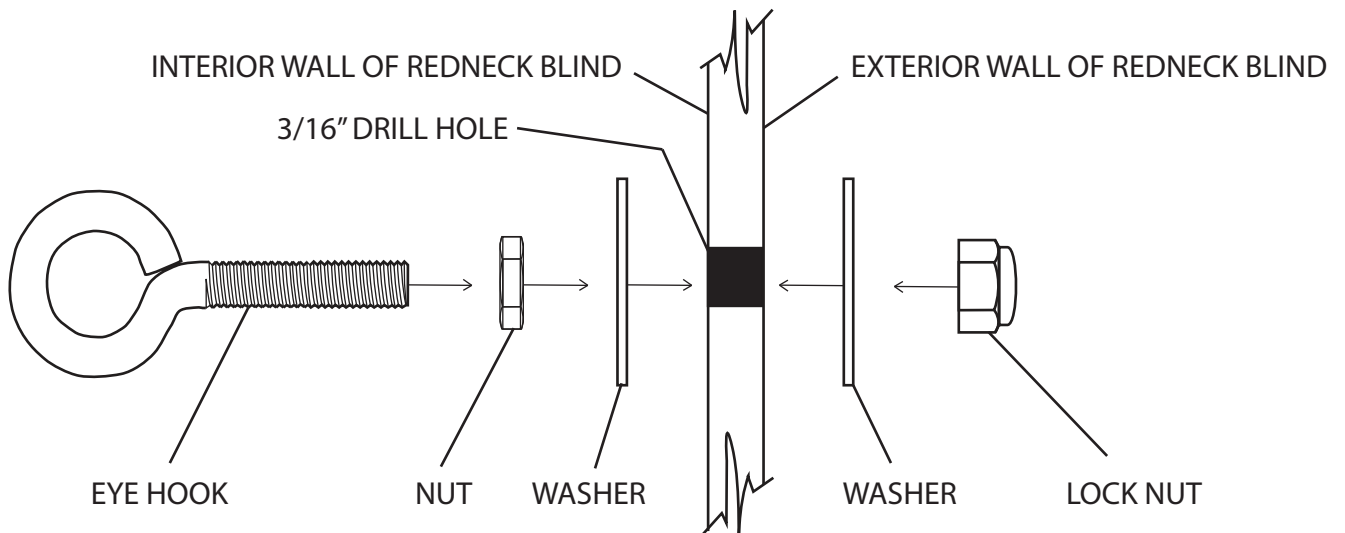

Figure 11.1
STEP 2: Drill a 3/16" hole through the wall of your Redneck Blind in the predetermined location of your choice. Make sure the location of your hole is high enough on the wall of the blind to allow for clearance of the window when it is open. Next install the EYE HOOK, NUT, (2) WASHERS and LOCK NUT, making sure to use the hardware configuration illustrated in Figure 11.1.